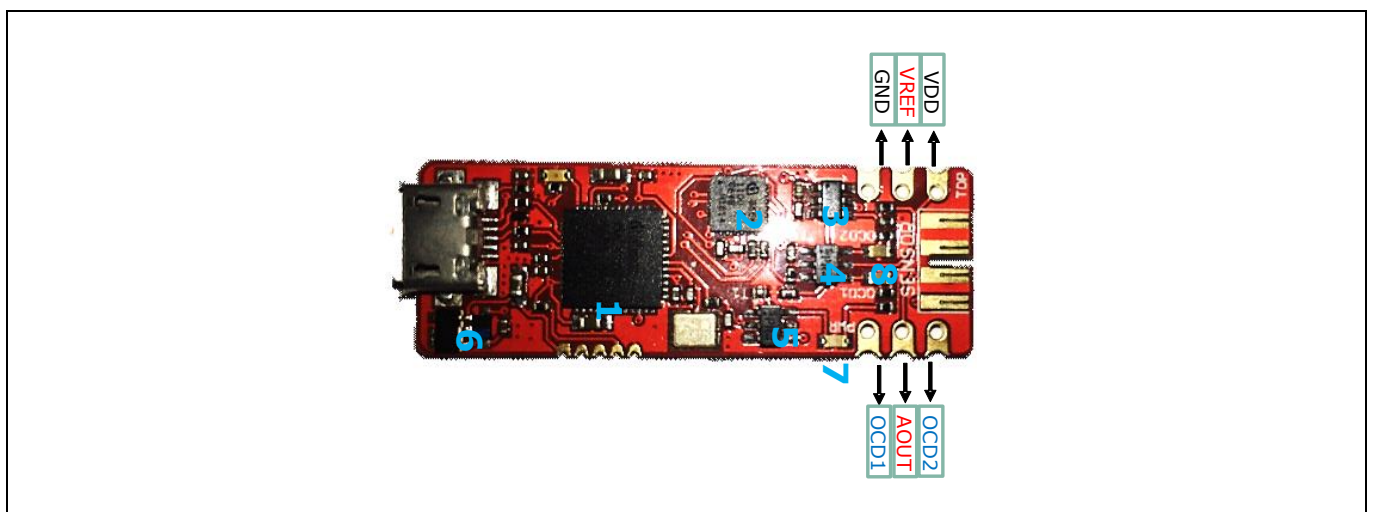

Figure 8 MCU Board Description
- One XMC4200 microcontroller running a SEGGER Jlink license for debugging (see '1' in Figure 8)
- One XMC1100 microcontroller used as target MCU (see '2' in Figure 8)
- MAX4624EUT / STG719STR Analog MUX (see '3' in Figure 8) is used to select an external or internal sensor voltage reference.
Also, it contains two BSL308PE dual package PMOS transistors (see '4, 5' in Figure 8) used for:
- Switching ON/OFF the sensor supply LED (see '7' in Figure 8)
- Switching ON/OFF the overcurrent indicator LEDs (see '8' in Figure 8).